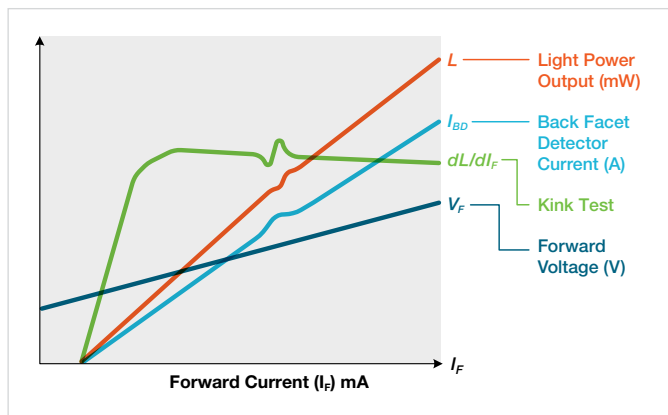

Figure 5. Typical Suite of LIV Curves.
This test verifies the proportionality of the relationship between the drive current ( $I_F$ ) and the light output (L) as depicted in **Figure 5**.